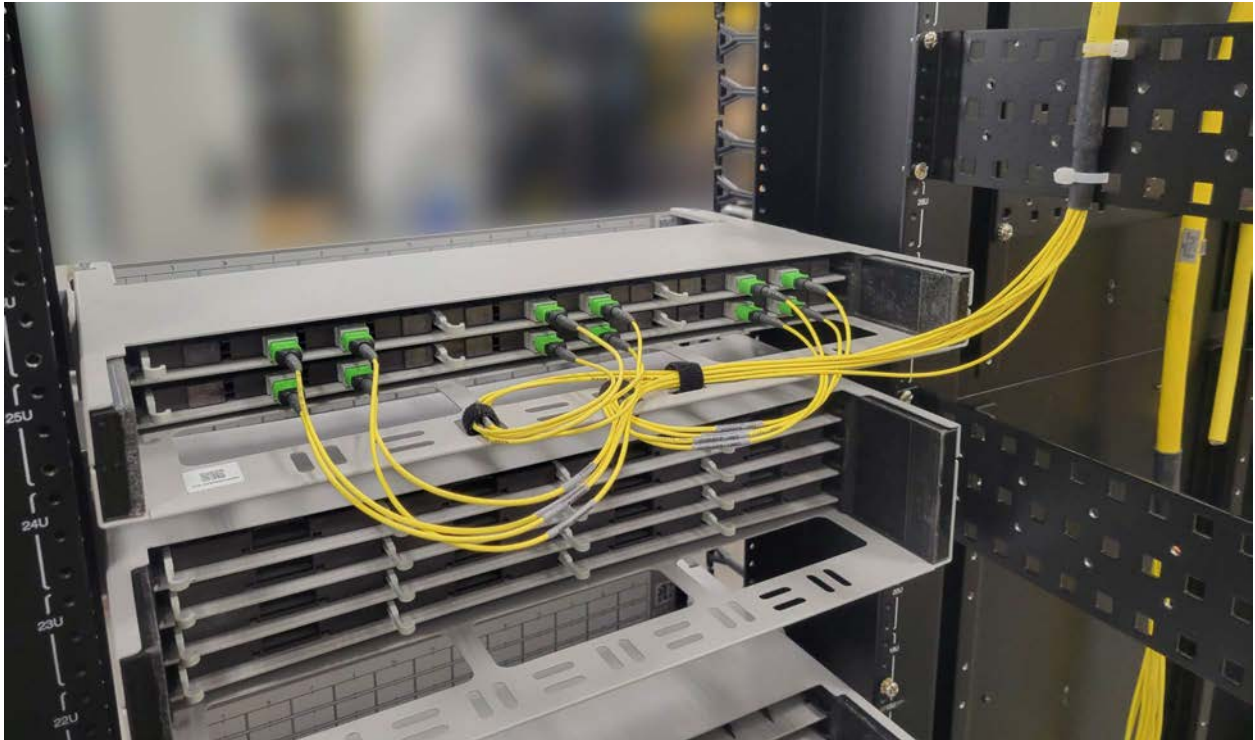

Figure 37. Securing Cables with Slack Loops on a Fixed Open Panel
3. Use hook-and-loop straps or cable ties to secure the cable to the cable management strip. Refer to Figure 36. Optionally, refer to Figure 37 for an example of using the cable management strip to facilitate and secure slack loops.